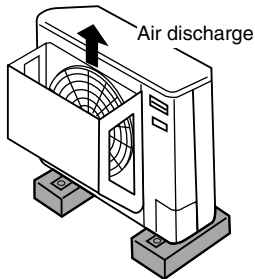

Fig. 2-8
- the air discharge outlet is facing a sidewalk and discharged hot air annoys passers-by. (Fig. 2-8)